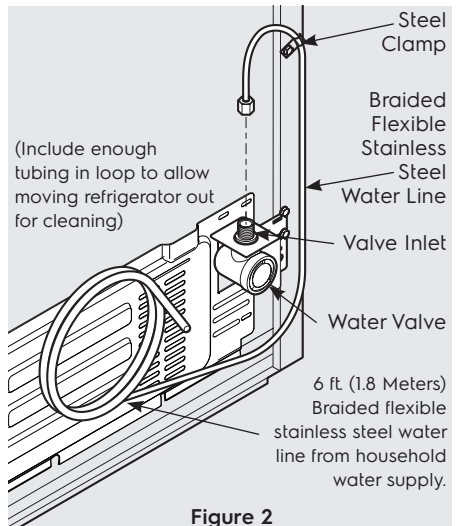

Figure 2
- If you use braided flexible stainless steel tubing - The nut is already assembled on the tubing. Slide the nut onto the valve inlet and finger tighten the nut onto valve. Tighten another half turn with a wrench; DO NOT over tighten. See Figure 2.